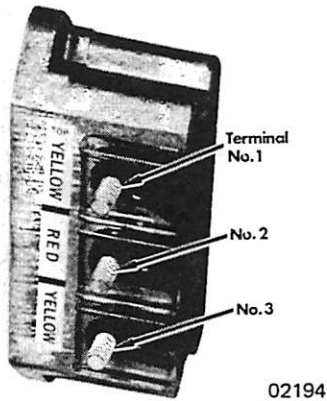

Figure 4. Rectifier Terminals
1. Remove rectifier from engine. (Figure 4)